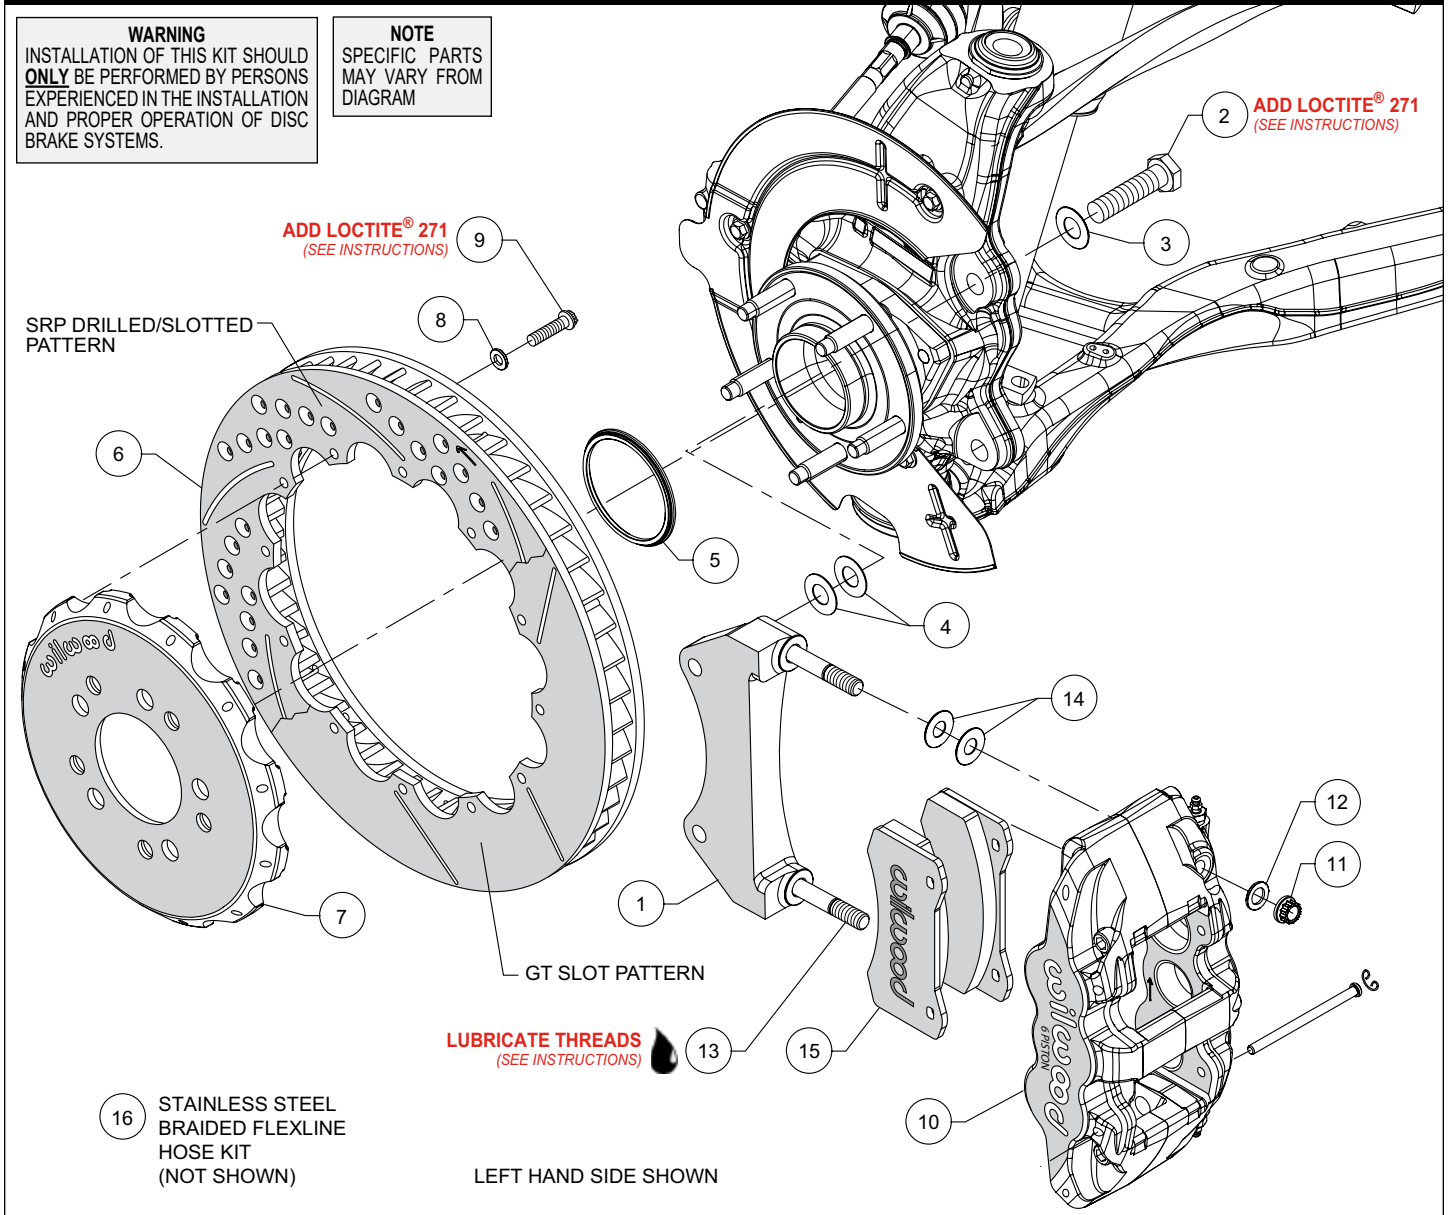
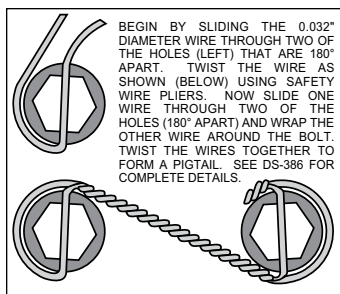

Figure 1. Typical Installation Configuration
Figure 3.
NOTE: Numbers in parenthesis refer to the parts list and Figure 1 on the preceding pages.
- The caliper mount bracket (1) should initially be installed with clean, dry threads on the mounting bolts. Orient the bracket as shown in Figure 1, and Photo 1 and install using bolts (2) and washers (3). Initially place two .029" thick shims (4) on each bolt between the bracket and upright, Figure 1. Temporarily tighten the mounting bolts. **NOTE:** *The bracket must fit squarely against the mount bosses on the upright.* Inspect for interference from casting irregularities, machining ridges, burrs, etc. Later, after the caliper alignment has been checked, the mount bolts will be secured using red *Loctite*® 271.
- Orient the rotor (6) and the hat (7) as shown in Figure 1 and Photo 2. Attach rotor to hat using bolts (9) and washers (8). Apply red *Loctite*® 271 to the bolt threads and torque to 155 **in-lb** using a criss-cross pattern. For an added measure of security, the bolts may be safety wired using standard 0.032 inch diameter stainless steel safety wire as shown in Figure 3. Please refer to Wilwood's data sheet DS-386 (available at www.wilwood.com/Pdf/DataSheets/ds386.pdf) for complete safety wire installation instructions.
- Slide the rotor registration adapter (5) onto the axle register on the axle hub with the smaller O.D. facing outward, Photo 3. Slide the hat/rotor assembly onto the axle hub. **NOTE:** *The hat must fit flush against the axle hub flange or excessive rotor run out may result.* Install three lug nuts (finger tight) to keep the hat/rotor assembly in place while continuing with the installation, Photo 4.
- NOTE:** *This kit contains distinct right and left hand calipers that must be mounted in a specific direction, as described below.* Lubricate the caliper mounting studs (13) with lightweight oil. Initially place two .030" thick shims (14) on each stud as shown
in Figure 1 and Photo 5. Mount the caliper (10) onto the bracket (1) using lock nuts (11) and washers (12), Figure 1. Ensure that the caliper is mounted so that the largest pistons are at the rotor exit end of the caliper, in relation to the direction of rotor rotation. Temporarily tighten the lock nuts and view the rotor through the top opening of the caliper. The rotor should be centered in the caliper, Photo 6. If not, adjust by adding or subtracting shims (4) between the bracket and the upright. Always use the same amount of shims on each of the two mounting bolts. Once the caliper alignment is correct, remove the bracket mounting bolts (2) one at a time, apply red *Loctite*[®] 271 to the threads, and torque to 105 ft-lb.
- Remove the two pad retaining pins from the caliper (10) by carefully popping out the pin retaining clips and sliding out the pins. Insert the brake pads (15) into the caliper from the bottom, Figure 1 and Photo 7. With the friction material facing the rotor, secure the brake pads in place with the pad retaining pins and clips, Photo 8. Reinstall the caliper onto the caliper mounting bracket and temporarily tighten the lock nuts. Check that the top of the brake pad is flush with the outside diameter of the rotor, Photo 9. If not, adjust by adding or subtracting shims (14) between the caliper and the bracket. After the caliper pad height is set, torque the caliper lock nuts (11) to 47 ft-lb.
- **NOTE:** OEM rubber brake hoses generally cannot be adapted to Wilwood calipers. The caliper inlet fitting is a 1/8-27 NPT (use PTFE tape on pipe threads for proper sealing to caliper). Install Wilwood's stainless steel braided flexline hose kit (16), P/N 220-9100 included with this kit as shown in Photo 10. **Carefully route hoses to prevent contact with moving suspension, brake or wheel components.** **NOTE:** Wilwood hose kits are designed for use in many different vehicle applications and it is the installer's responsibility to properly route and ensure adequate clearance and retention for brake hose components.